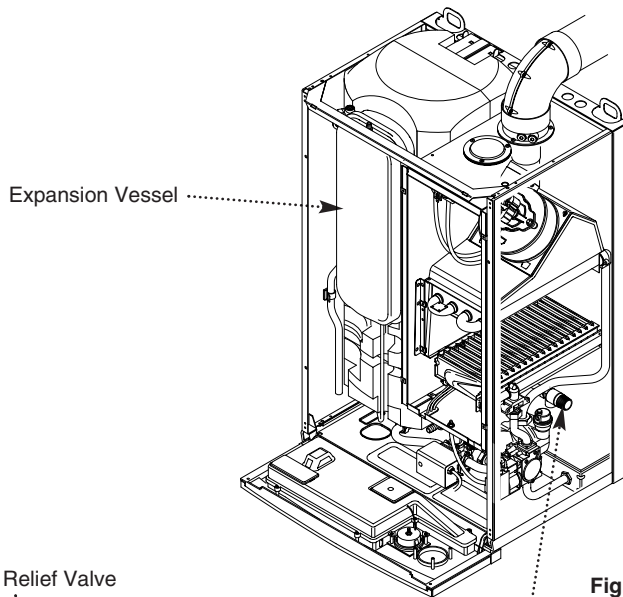

Fig. 7
6.6 Expansion Vessel (Fig. 7) (Central Heating only)